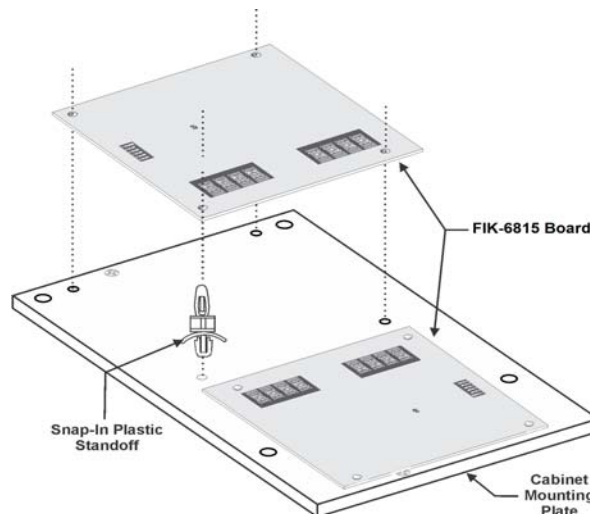

Figure 1 Standoff Installation and FIK-6815 Board Mounting
3. If you mount the FIK-6815 in the FIK-NIC-KIT, position the FIK-6815 board(s) and snap them into place on the plastic standoffs as shown in Figure 1.